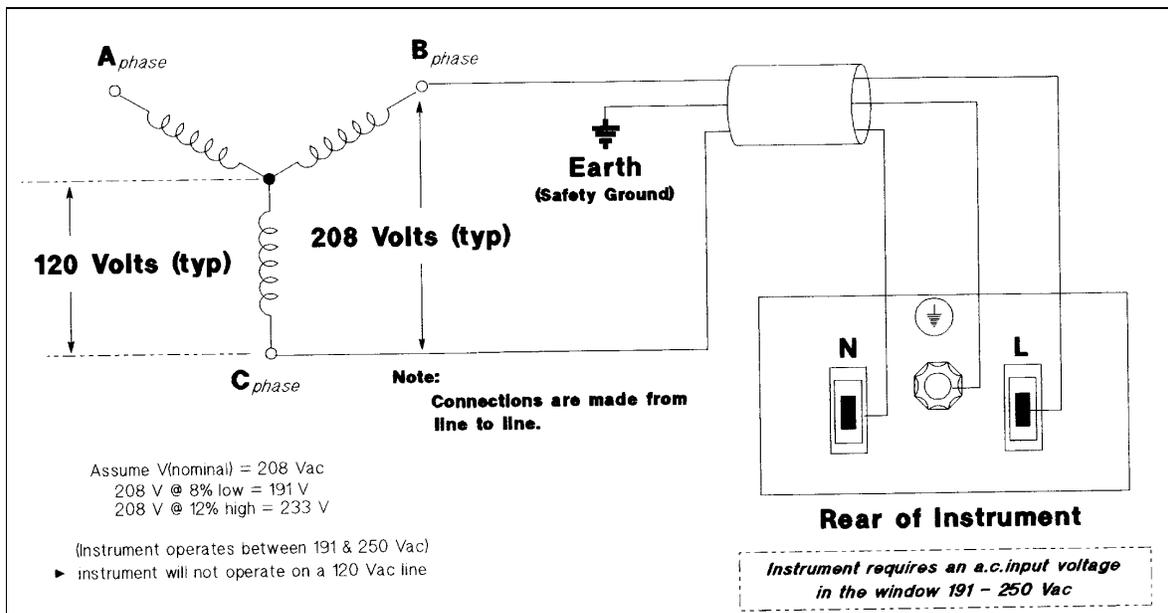

Figure 2-3. Connection to a 3-Phase Line
1. If they are not already in place, position the strain relief connector (11), safety cover (5), rubber boot (9), and connector nut (8) on the power cord (7).
2. Secure the ground wire (2) to the chassis earth ground stud.
3. For single-phase operation, connect the neutral wire (1) to the N input terminal and the line wire (3) to the L input terminal (this line is fused inside the unit).
4. For line-to-line operation from a three-phase source as shown in Figure 2-3, connect one phase to the N input terminal and another phase to the L input terminal (this line is fused inside the unit).